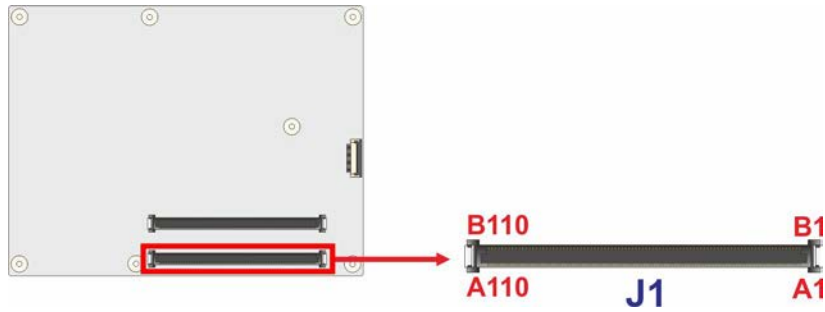

Figure 3-3: COM Express A-B Connector Location
- CN Location:** See **Figure 3-3**